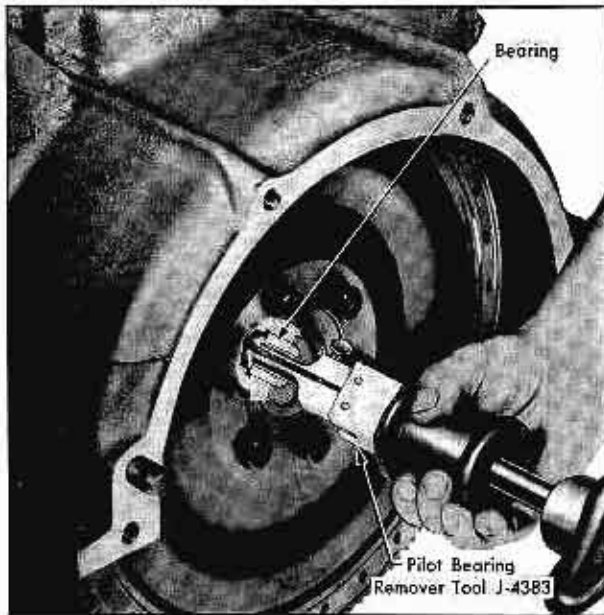

Fig. 10-33 Removing Crankshaft Pilot Bearing
3. Tighten thumb screw to secure collet in bearing and remove bearing by tapping slide hammer against head of tool, Fig. 10-33.